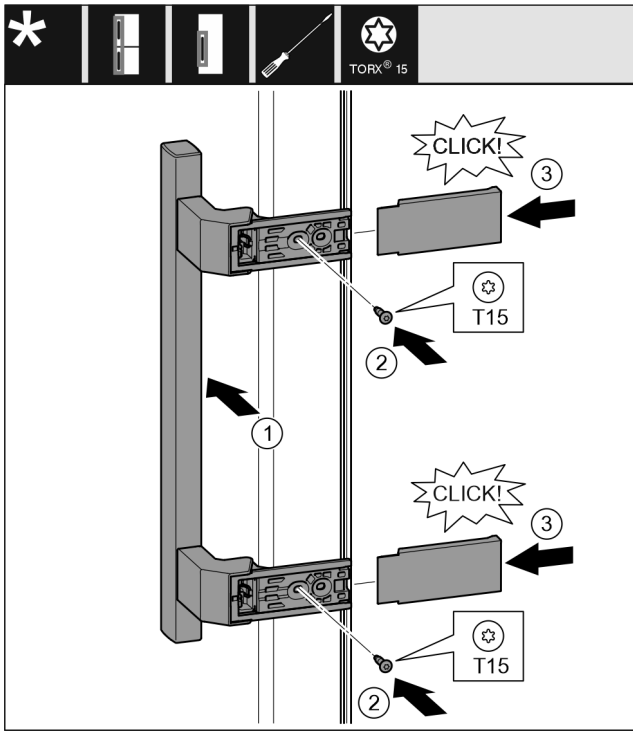

Fig. 17
- ▶ Position the handle on the other side. Fig. 17 (1)
- ▶ Tighten the screw with a T15 screwdriver. Fig. 17 (2)
- ▶ Position the covers on the side and push them on. Fig. 17 (3)